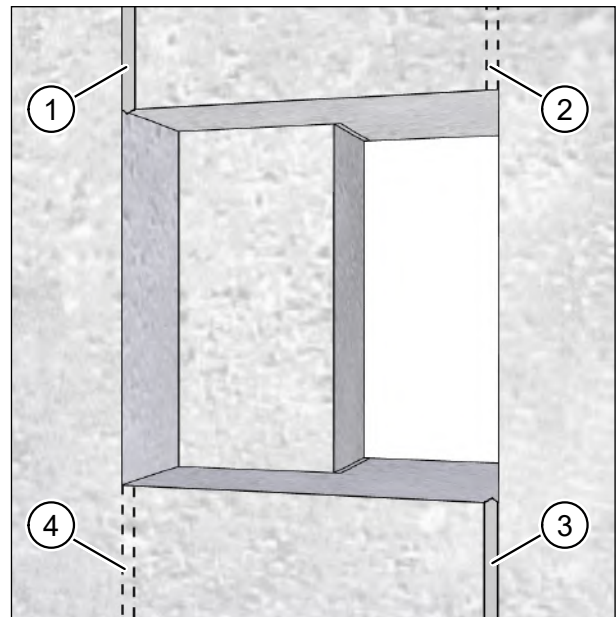

Fig. 10: Chasing out channels for connecting cables
- ▶ Chase one channel for the mains cable (item 1 in Fig. 10) and one for the control cable, if required (item 3 in Fig. 10).
- The wall channels in Fig. 10 are shown by way of example. Alternative wall channels are shown as dashed lines (item 2 and item 4 in Fig. 10). For the subsequent electrical installation work, we recommend running the mains cable from the left and the control cable (if used) from the right at the wall breakthrough.